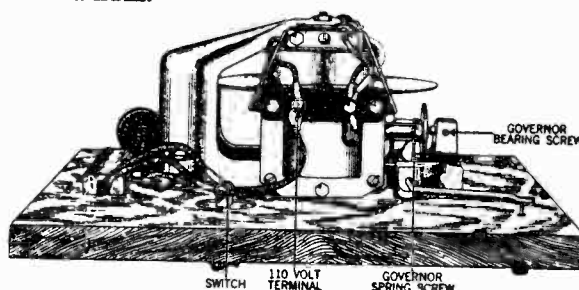

Fig. 4
a. **Governor Springs**—A noise or rattle may sometimes be caused by loose or broken governor springs. Tighten all the governor spring screws as shown in Fig. 4. If this does not stop the noise, loosen the screws on the disc end of the governor springs and allow the motor to run for a minute or so to allow the springs to assume their correct position. Stop the motor and re-tighten the screws. If any of the springs are broken or badly out of balance, they should be replaced. Removal of the governor can be accomplished by loosening the two governor bearing screws, one at each end of the shaft, and lifting the governor from the frame.